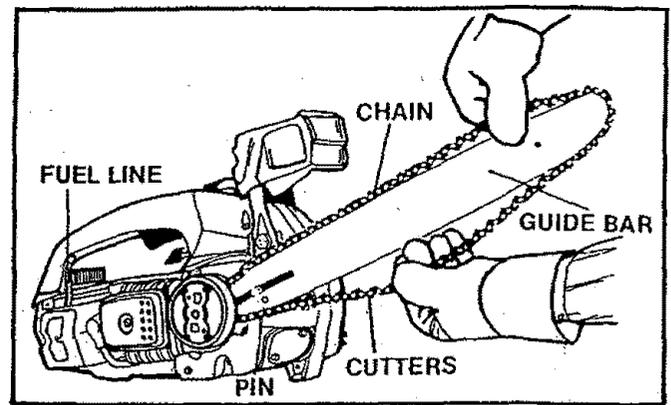

Figure 8
- d. Place the Guide Bar on the saw by fitting the long slot in the Guide Bar over the Bar Stud. Figure 8.
- e. Hold the Guide Bar at a 45 degree angle to the saw and slip the chain into the Guide Bar grooves — first, the top groove and then, the bottom groove. Figure 8.
NOTE: Check to be sure fuel line is in place. Figure 8.